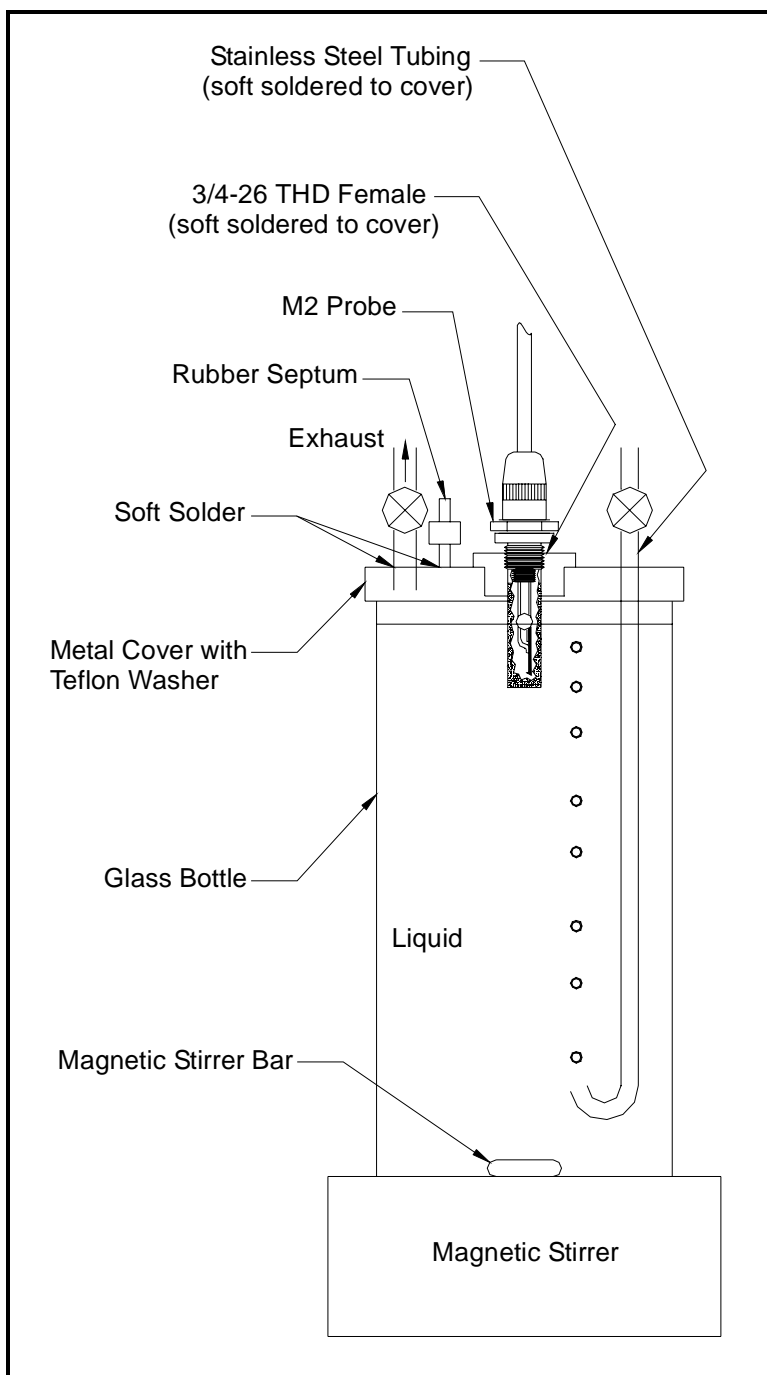

Figure A-3: Moisture Content Test Apparatus
Either of the empirical calibration techniques described above can be conducted using an apparatus equivalent to that shown in Figure A-3. The apparatus pictured can be used for both the Karl Fischer titrations of unknown test samples and the preparation of test samples with known moisture content. Procedures for both of these techniques are presented below.
To perform a Karl Fisher analysis, use the apparatus in Figure A-3 and complete the following steps:
To prepare samples of known moisture content, use the apparatus in Figure A-3 and complete the following steps:
- a. Using the apparatus shown in Figure A-3, dissolve a known amount of the solids sample in a suitable hydrocarbon liquid.